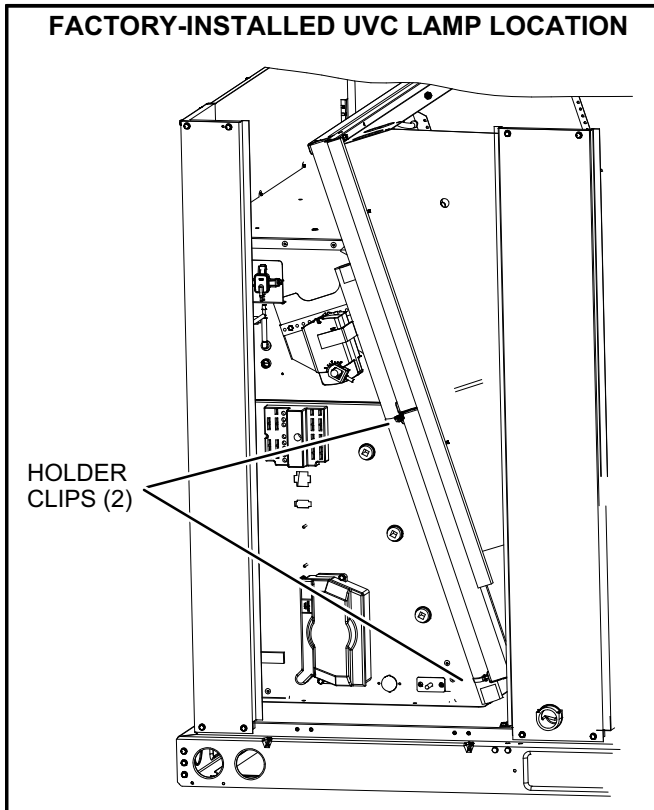

FIGURE 36
- 1- Cut wire ties and remove the UVC lamp attached to the filter rack. See figure 36.